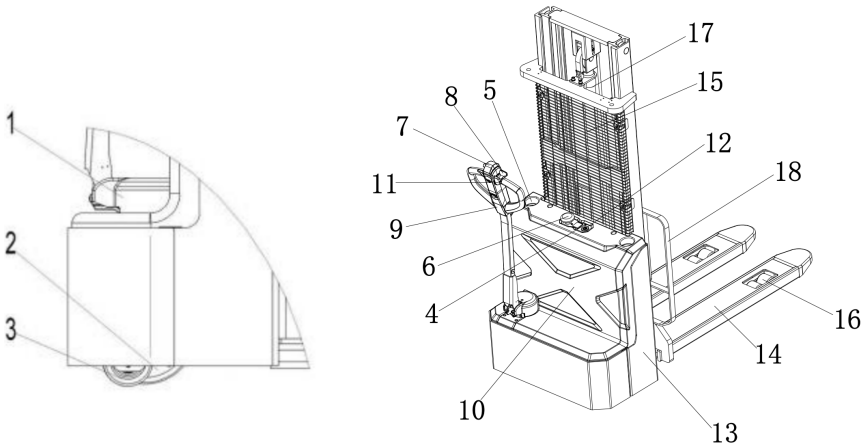

Figure 1:Overview of main components
This stacker forklift has an emergency stop switch 6 (Figure 1), can stop all lifting, lowering, and driving functions, and can also disable the electromagnetic brake. After checking the controller's functions, simply pull up this switch to operate the stacker forklift. Before operation, insert the key and turn on the switch 12 (Figure 1) rotate clockwise. If you are not operating this forklift, to prevent unauthorized use, turn the key counterclockwise and remove it. This forklift is equipped with a belly switch. (Figure 1), When the vehicle is moving towards the operator, simply touch the belly switch within the handle's operating range to move the vehicle away from the operator. Also, follow the instructions shown on the label. Replace the label promptly if it is damaged or missing.
- Vehicles without protective netting installed (Figure 1, item 15/Grille).